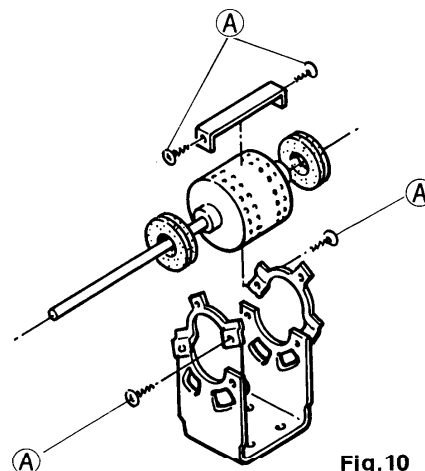

Fig.10
- ⑦ When the four screws (A) are removed as shown in the figure, the fan motor can be removed. Fig. 10.